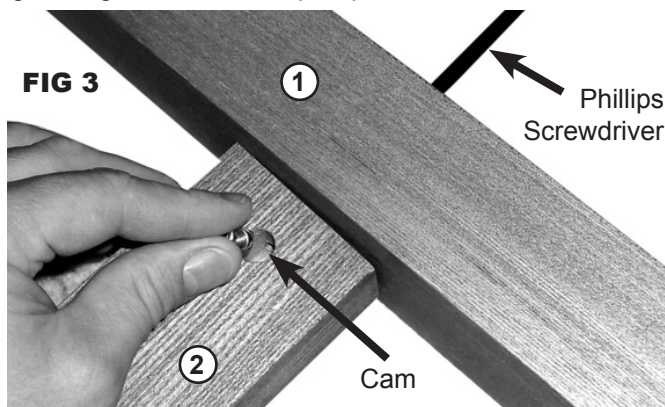

FIG 3
STEP 3. Secure Base Cross Members to base using the four 6 X 60mm Bolts and Cams (A). Insert Cam into hole found in Base Cross Member and insert bolt into base foot. Tighten by holding Cam in position while tightening down bolt with phillips screwdriver. See FIG 3.